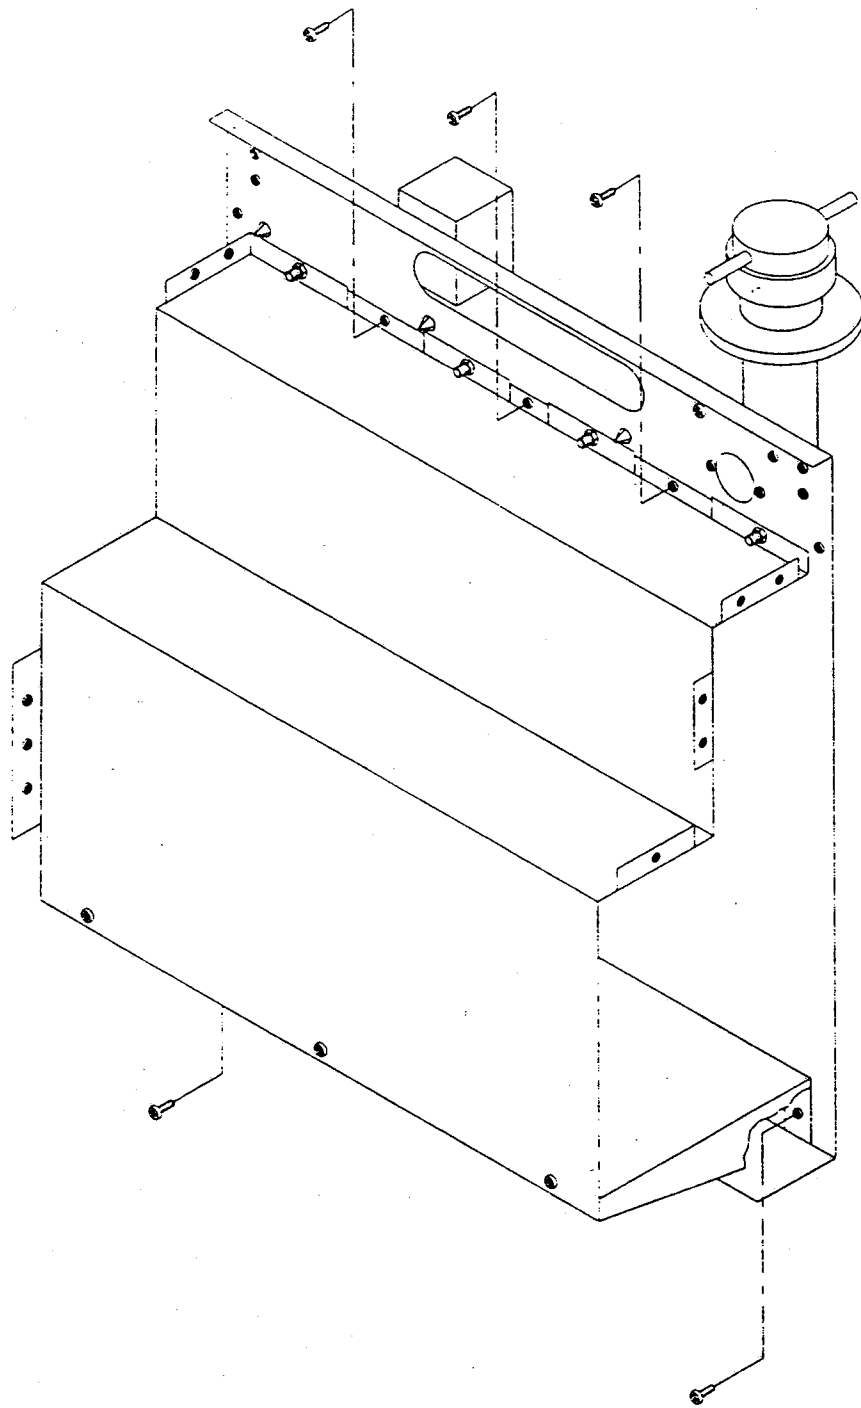

Figure 5-4. Mounting Screws for Vacuum System.
- 16 Separate the vacuum system frame from the circuit card chassis by removing five screws. See Figure 5-4.